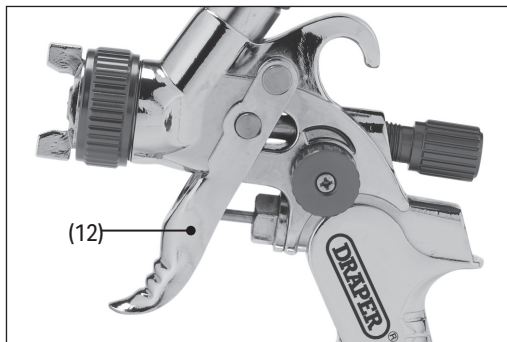

Fig. 14
Paint is released from the spray gun by squeezing the trigger (12) (Fig. 14):